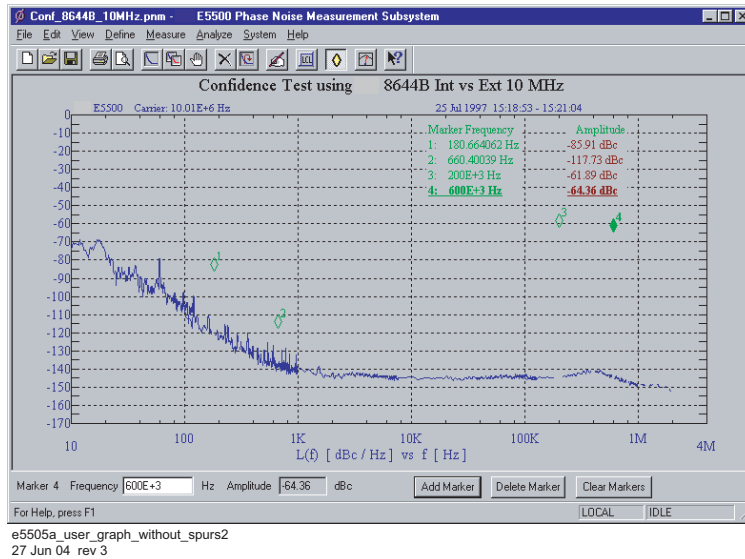

Figure 268 Graph without spurs
- 3 The Graph will be displayed without spurs (Figure 268 on page 343). To re-display the spurs, check **Spurs** in the **Display Preferences** dialog box.